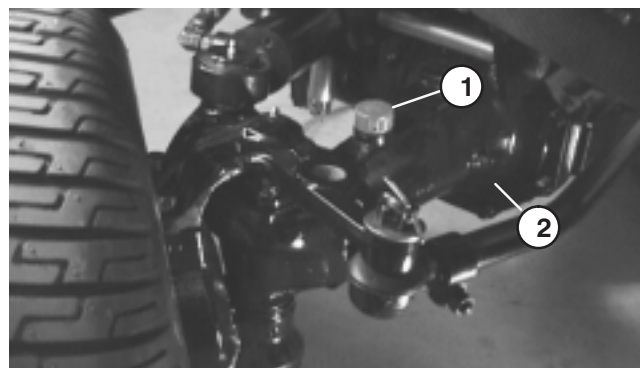

Figure 7
CHECK REAR AXLE LUBRICANT (Fig. 7–8)
2. Clean area around the (3) check plugs, (1) on each end and (1) in the center (Fig. 7).